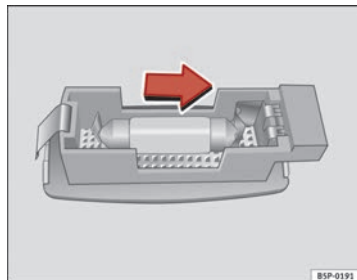

Fig. 179 Removing sun visor light
- Carefully remove the lamp, using the flat side of a screwdriver, as shown in the figure $\Rightarrow$ fig. 179.
- Remove the bulb, moving it in the direction of the arrow and outwards $\Rightarrow$ fig. 179.